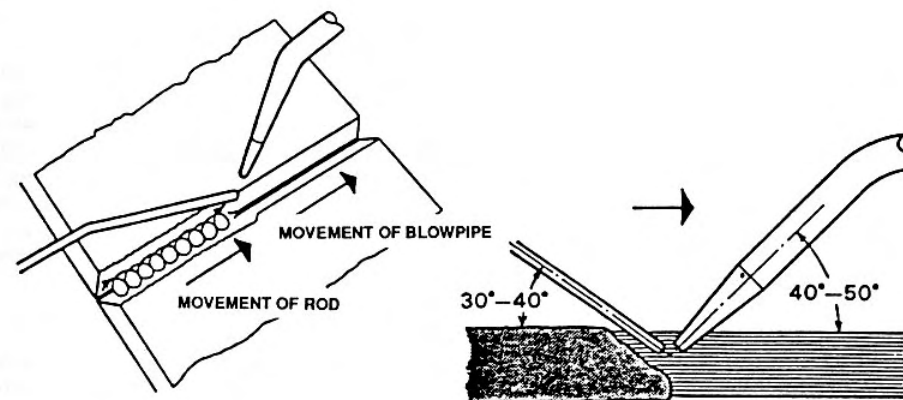

Fig. 16.7 Rightward welding.
**RIGHTWARD WELDING** procedure is recommended for steel plate over 5.00 mm ( $\frac{3}{16}$  in.) thick. Plates from 5.00mm to 8.00mm ( $\frac{3}{16}$  in. to  $\frac{5}{16}$  in.) need not be bevelled. The weld is started at the left of the seam and proceeds towards the right as shown in Fig. 16.7. The blowpipe flame precedes the filler rod in the direction of travel. The rod is given a circular forward motion and the blowpipe is moved steadily along the weld seam.